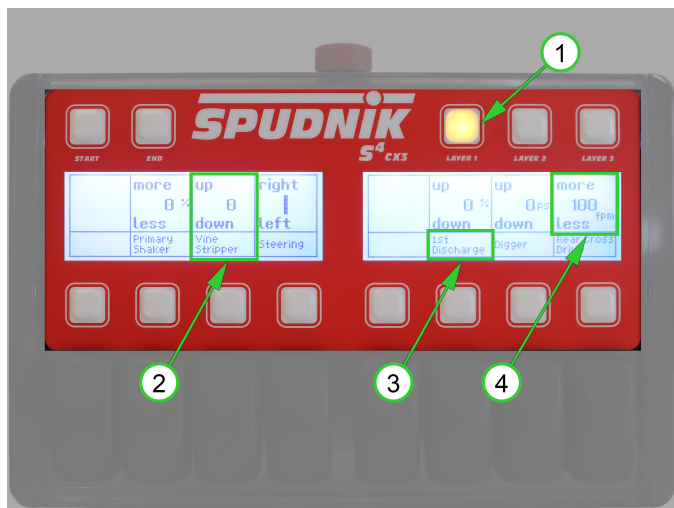

Figure 28
The layer soft keys access and display three different layers of control functions. The (1) layer soft key illuminates when activated. When active, up to eight control functions display in (2) columns which contain a (3) function name at the bottom and (4) function action at the top. Press individual layer keys to toggle between active and inactive. (See Figure 28)